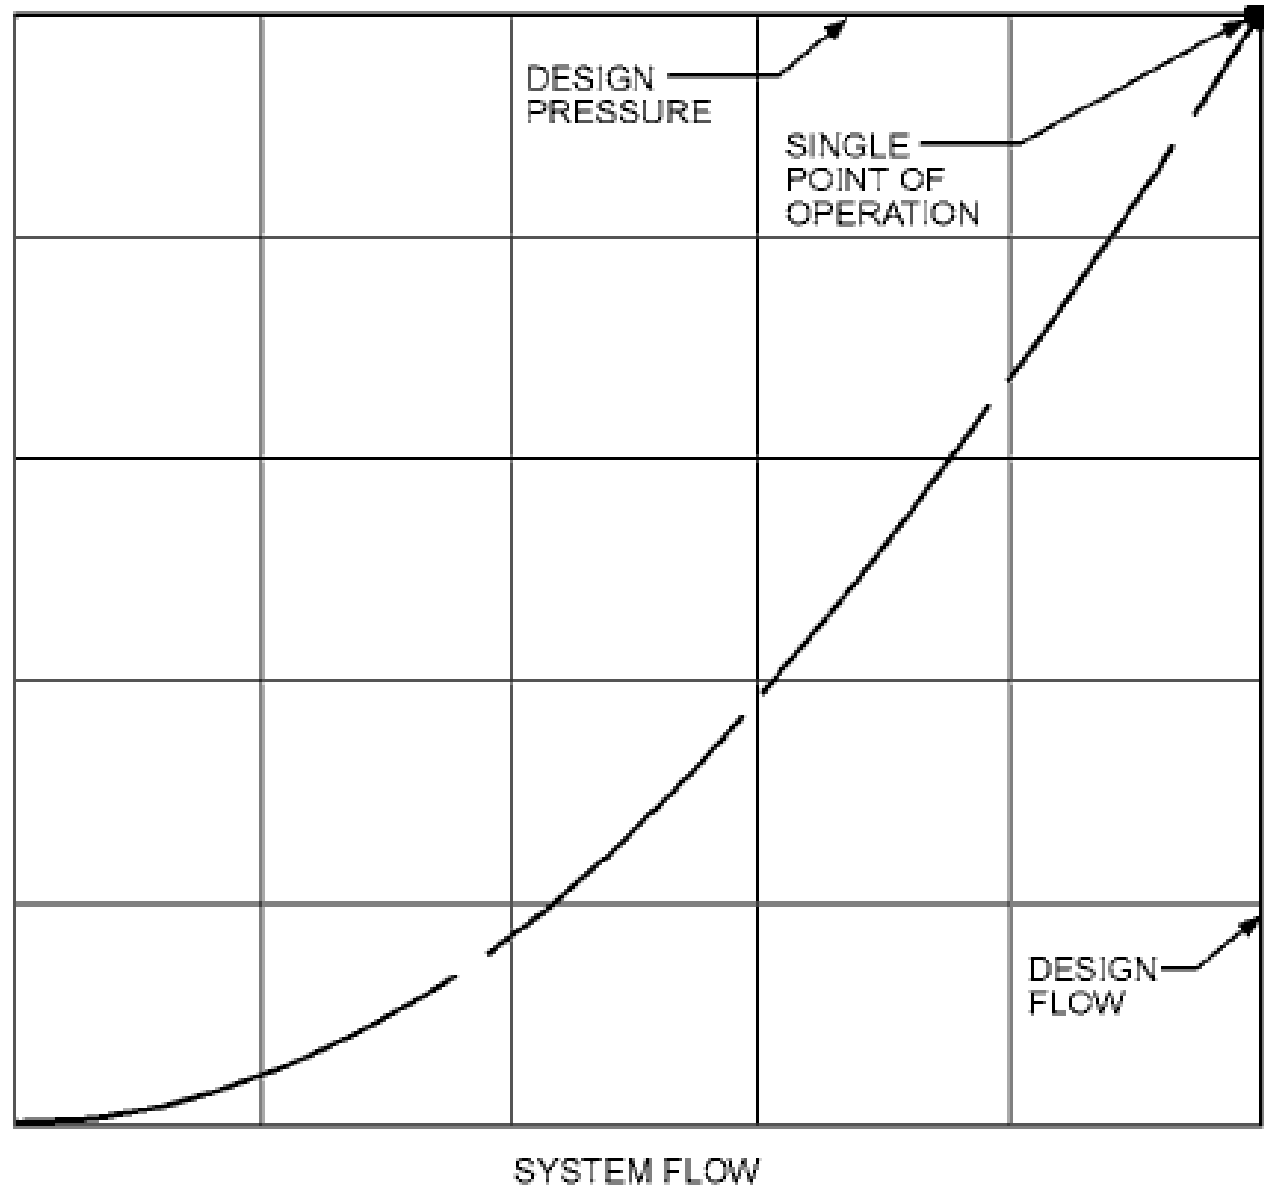

Fig. 15 Typical System Curve
Equation (1) shows that pressure drop in a hydronic system (pipe, fittings, and equipment) is proportional to the square of the flow (V^2 or Q^2 where Q is the flow). Experiments show that pressure drop is more nearly proportional to between $V^{1.85}$ and $V^{1.9}$, or a nearly parabolic curve as shown in Figures 15 and 18. The design of the system (including the number of terminals and flows, the fittings and valves, and the length of pipe mains and branches) affects the shape of this curve.